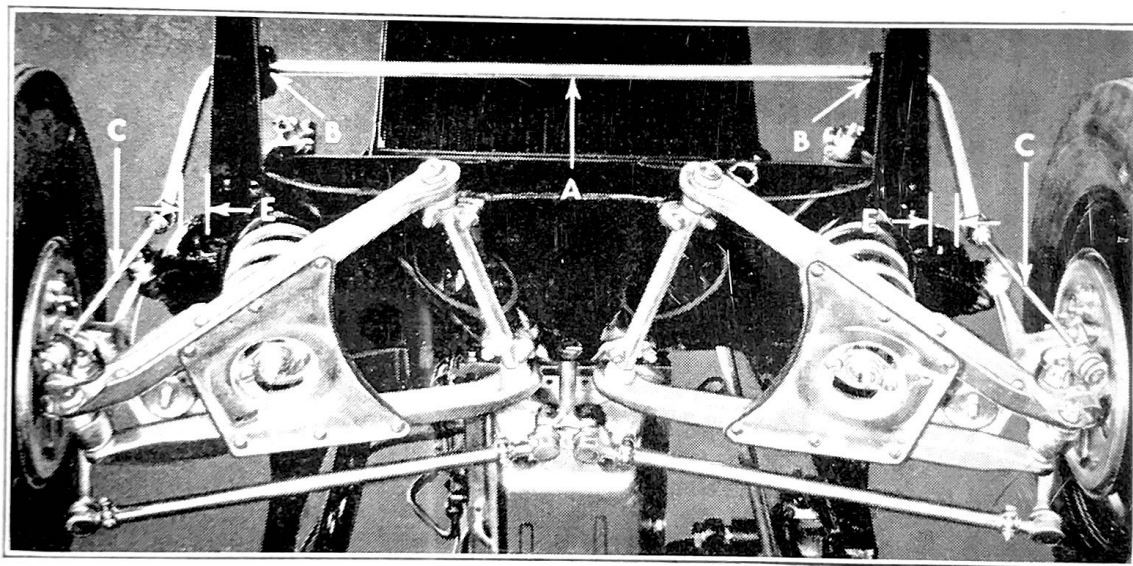

Figure 42
The control bar (A), Fig. 42, is assembled in tight fitting rubber bushings (B) mounted on the top of the front end of the car frame. The ends of the torsion bar are attached to the front wheels through steel connectors (C) cushioned in rubber.